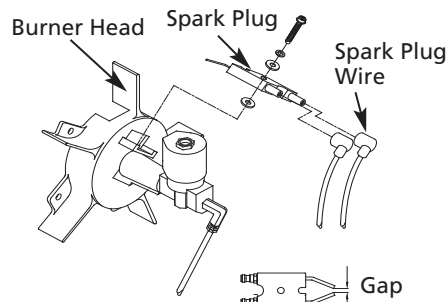

Figure 13 – Spark Plug
- Remove spark plug wire from spark plug (See Figure 13).